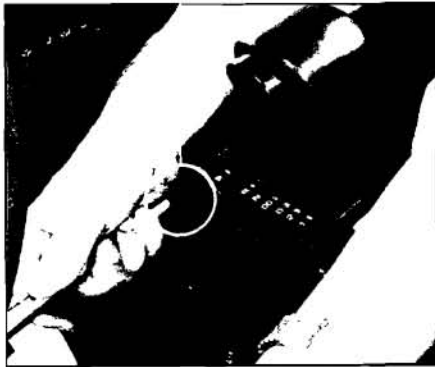

Figure 7
- E) **Figure 7** - Remove the four bolts attaching the shifter to the shifter housing.